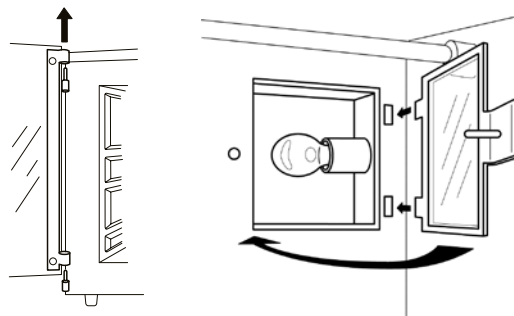

Figure 18
2. To remove the Oven Door, open and lift upwards and off of the Door pins. (See Figure 18).